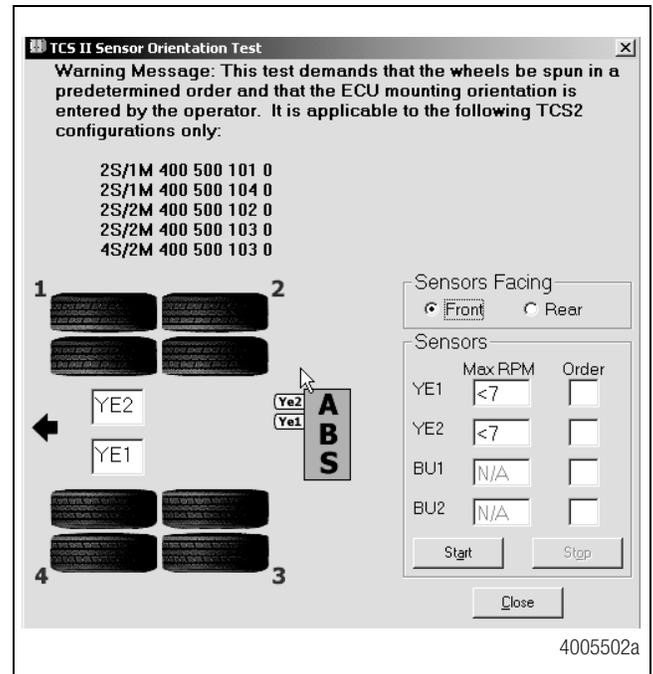
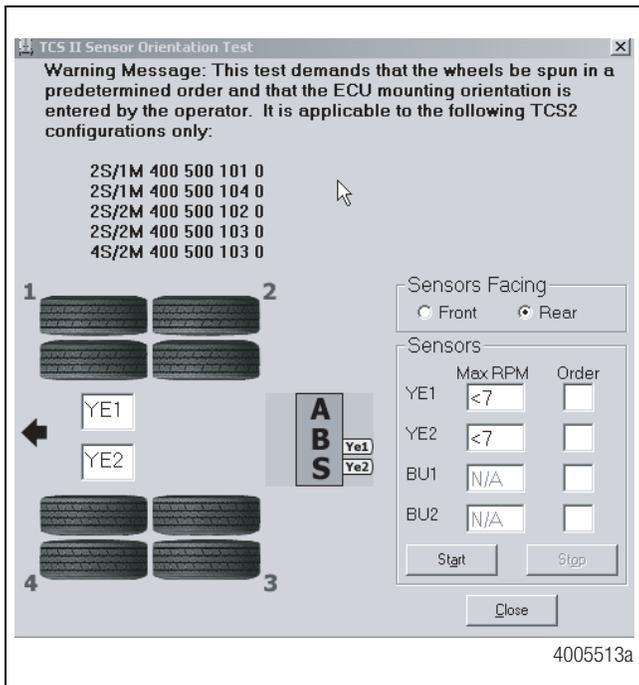

Figure 15
Figure 16
4. At the **Trailer Main Menu**, click on **Component Test**, then select **Sensor Orientation Test** to display the **Sensor Orientation Test** screen. Figure 15.
Refer to Figure 15 and Figure 16 for illustrations of the ECU mounted with sensors facing forward and rear. The correct mounting orientation must be selected prior to starting the test.
7. Follow the screen prompts, starting with 1, to rotate each sensed wheel end at a rate of 1/2 revolution per second. This rate equals a wheel speed of approximately 4 mph (7 kph). As each sensed wheel is rotated, check the color of the sensor identification block on the screen for results. Sensor identification boxes are located in the bottom left portion of the **Sensor Orientation Test** screen. Figure 16.
9. Verify there is sensor output. If there is no sensor output, verify that a tone ring has been installed and that the sensor is pushed all the way in against the tone ring. Perform the necessary repairs and repeat the test. If the problem persists, contact WABCO North America Customer Care at 855-228-3203. Sensor output appears in the Sensors field located in the bottom right portion of the **Sensor Orientation Test** screen. Figure 16.